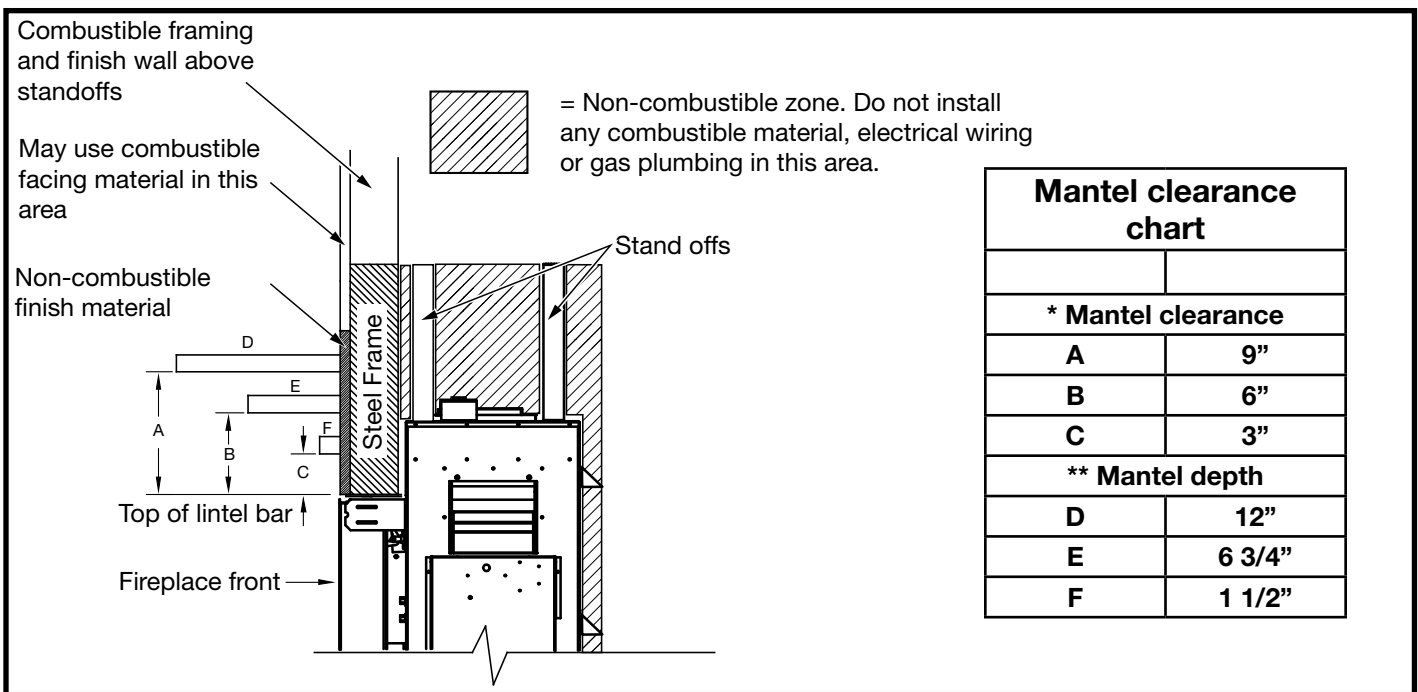
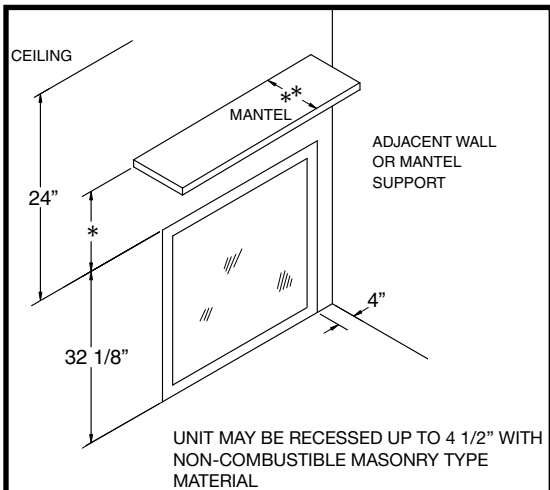

Figure 5: Mantel clearances.
Figure 6: TC 36CODE Mantle.
**The minimum clearances from the fireplace to combustible surfaces must be adhered to and are shown in Figure 5 and Figure 6.**